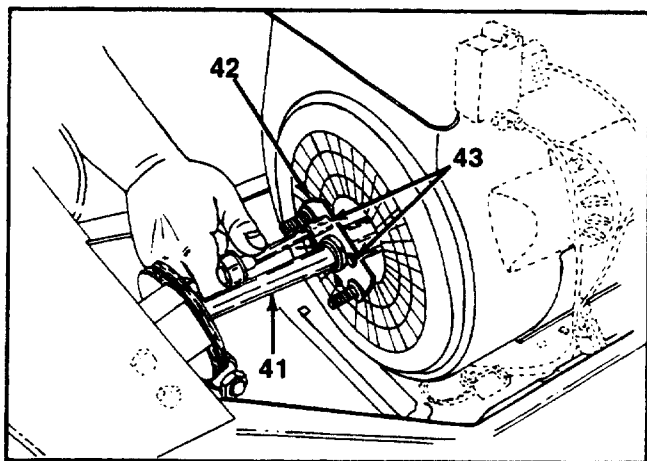

FIGURE 22.
24. Remove the two bolts at alignable bearing on engine at drive shaft. See figure 22.